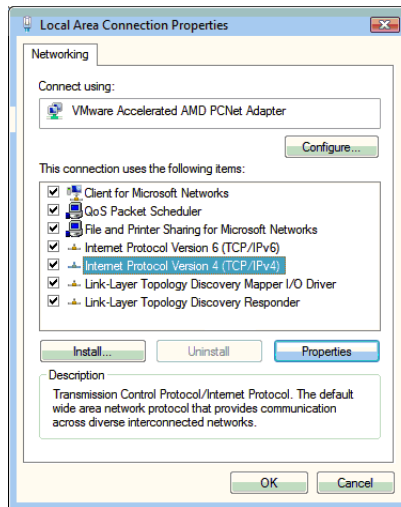

Figure 7-6 Local Area Connection Properties
3. Right-click on the Local Area Connection icon and select the Properties option. After you provide permission to continue, the PC displays the Local Area Connection Properties window (Figure 7-6).